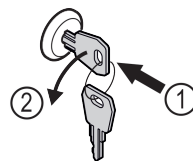

Fig. 162
- ▶ Insert the key. Fig. 162 (1)
- ▶ Turn the key anticlockwise by 90°. Fig. 162 (2)